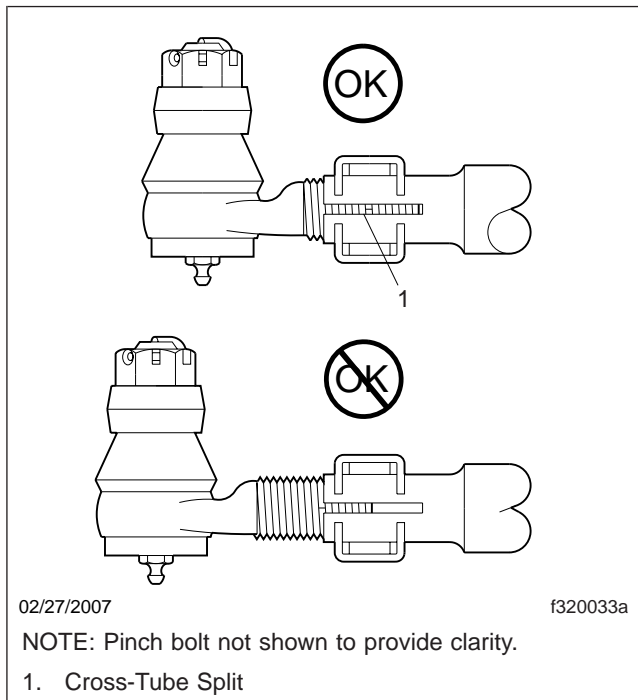

Fig. 3, Tie-Rod End Adjustment
2. The threaded portion of the tie-rod end assembly must be inserted all the way into the cross-tube split for adequate clamping. See **Fig. 3**. Replace the components if this cannot be done. For instructions, see **Group 46** of the *L-Line and A-Line Workshop Manual*.